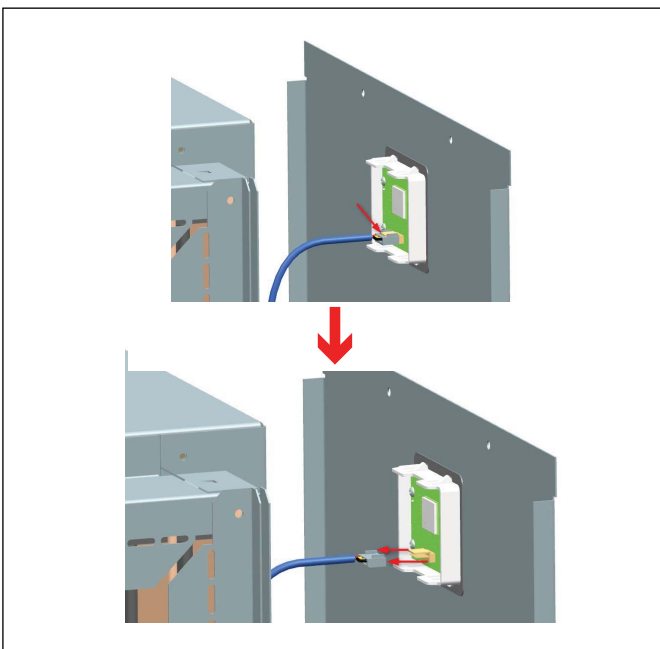

Figure 11
9. Unplug the unit display plug (figure 11).